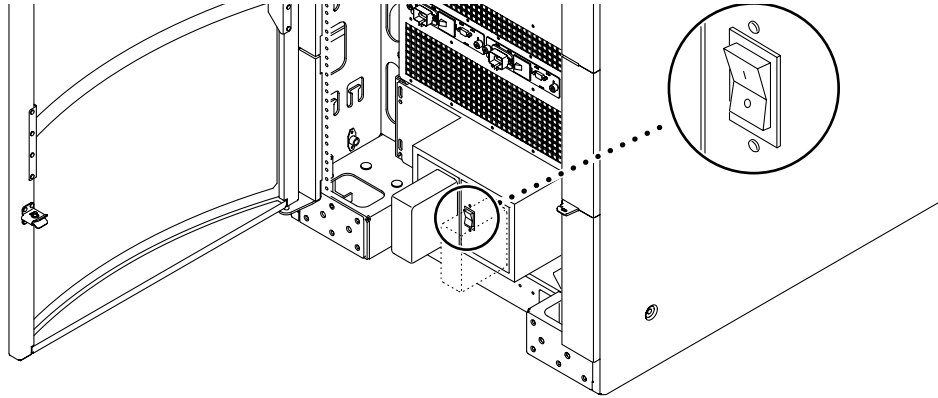

FIGURE 4-1 RTS Power Switch Location
4. Power on each redundant transfer switch (RTS) (FIGURE 4-1).